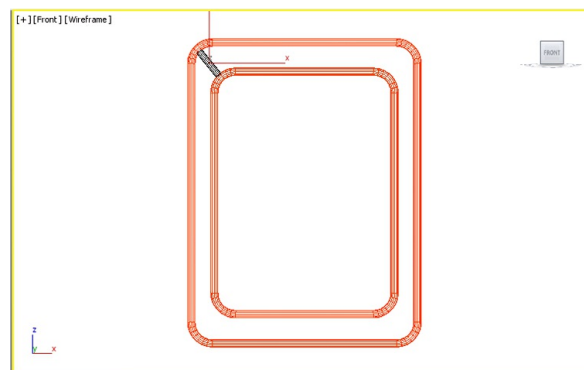

Figure 5-61 The *joint1* geometry in the Front Viewport
4. In the **Name and Color** rollout, enter the name **joint1** and assign the same color to it that you assigned to *inner frame*. Figure 5-61 shows *joint1* in the Front viewport.